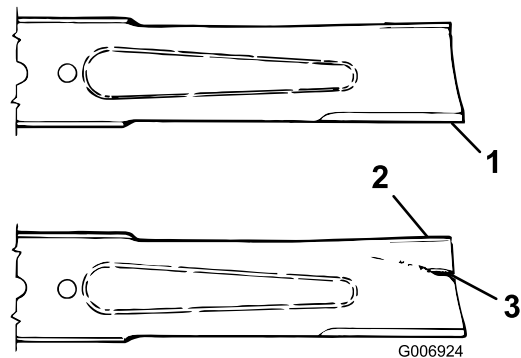

Figure 77
3. Examine the cutting ends of the blade carefully, especially where the flat and curved parts of the blade meet (Figure 77).
4. If wear is noticed (Figure 77), replace the blade; refer to Inspecting the Blade Plane \(page 71\).
If the blade is allowed to wear, a slot will form between the sail and flat part of the blade (Figure 77). Eventually a piece of the blade may break off and be thrown from under the housing, possibly resulting in serious injury to yourself or bystanders.